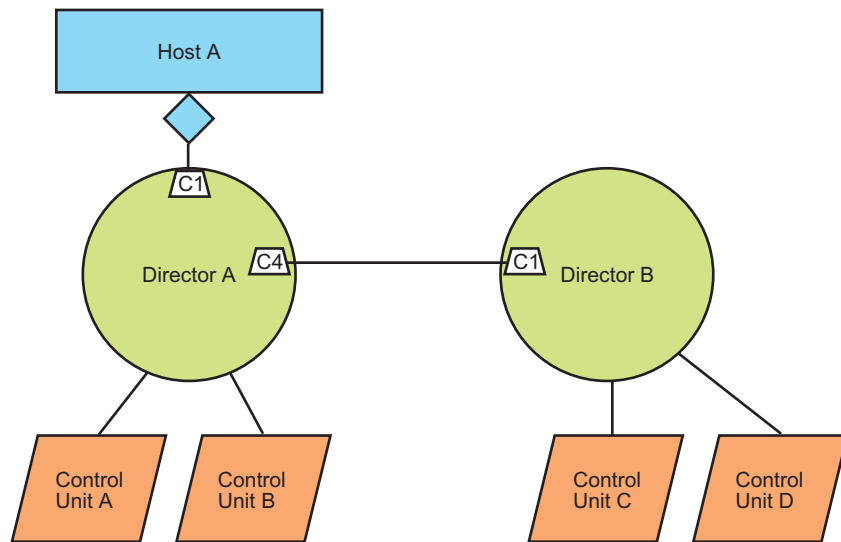

Figure 32. Chained Directors
The distance from a host to a control unit can also be extended by chaining two Directors as shown in Figure 32. This requires a dedicated connection through at least one Director and a physical connection (through a fiber-optic cable) from a port on one Director to a port on the other Director. Chained Directors must meet these criteria:
- One or both Directors must provide a dedicated connection. In Figure 32, a dedicated connection exists on Director A between the ports with addresses C1 and C4.